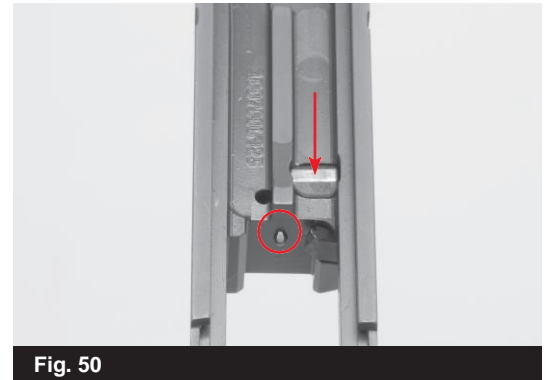

Fig. 49
- When replacing the slide cover plate, hold it partially in its place and press down on the spacer sleeve with a finger or pin punch. This will allow the cover plate to move inwards. Then press down on the spring loaded bearing while continuing to press the slide cover plate inwards. This will let the slide cover plate move all the way up and snap into position. (Fig. 49)